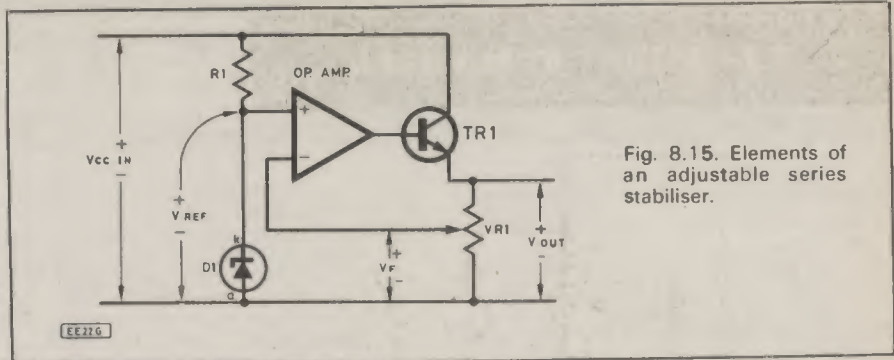

Fig. 8.15. Elements of an adjustable series stabiliser.
For many purposes a variable-voltage stabilised supply is needed. The essential elements of a variable series stabiliser are shown in Fig. 8.15. The differential (operational) amplifier is used to compare a tapped-off portion (VF) of the output